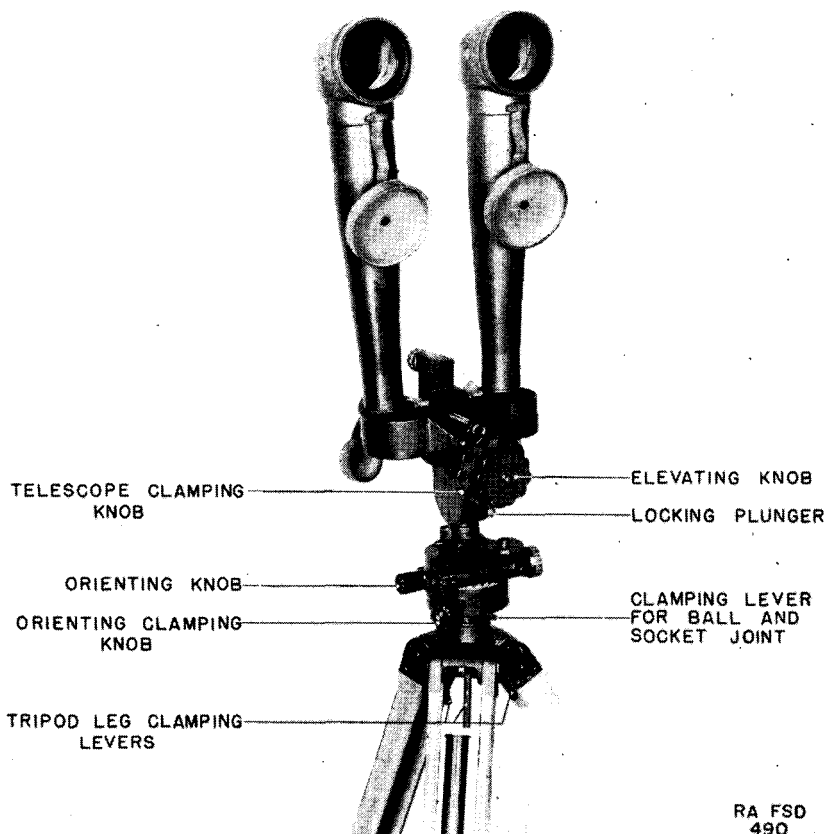

FIGURE 60.—Battery commander's telescope, M1915, front view.
*c. Care and preservation.*—(1) See paragraph 58 for general instructions pertaining to care and preservation of instruments.
(2) For temperatures above 32° F., occasionally oil the mechanism with neutral oil in the two oil cups provided. For temperatures below 32° F., oil mechanism with oil, lubricating, for aircraft instruments and machine guns. Set range to zero when oiling.
(3) Rotate the round only in a clockwise direction. Incorrect settings and loosening of the fuze may result from failure to do so.
(4) If the setter becomes clogged with sand or dirt so as to affect its operation, it is to be turned over to qualified ordnance personnel for cleaning.
(5) When not in use, protect the setter with its cover.
**57. Telescope, battery commander's, M1915.**—This instrument (figs. 60 and 61) is a 10-power binocular instrument used for observation and for measurement of azimuth and angle of site.
*a. Description.*—(1) The instrument complete includes a binocular telescope, mount, tripod, and as accessories the necessary carrying cases, storage chest, and cleaning brushes.